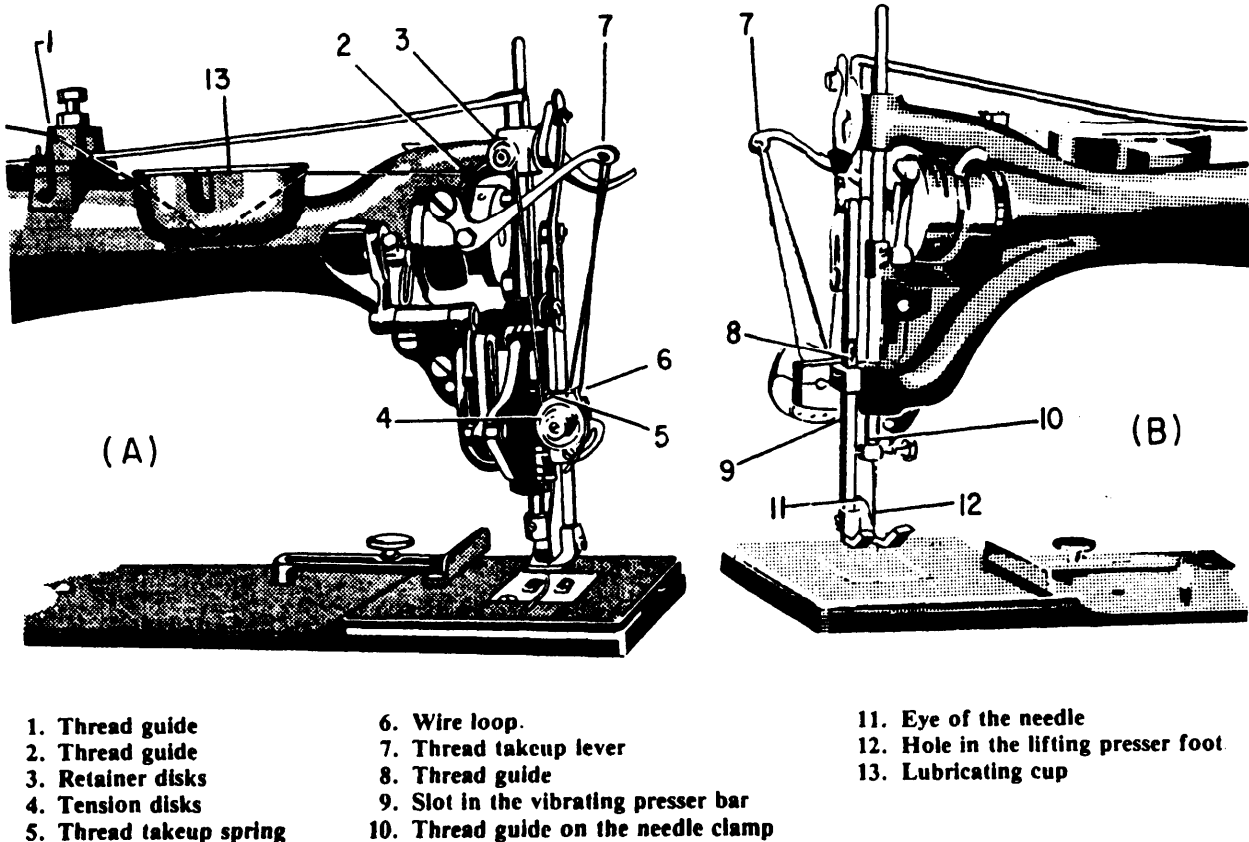

Figure 9-19.—Threading the 7-33 sewing machine.
Turn the balance wheel toward you until the thread take-up lever (7) moves up to its highest position (fig. 9-19). Pass the thread from the thread stand to the thread post, right to left
guide (10), which is located on the needle clamp. The needle is now threaded from left to right through the eye of the needle (11). After the needle is threaded as shown in figure 9-19, pass the thread down through the hole in the lifting presser foot (12). Draw about 4 inches of thread through the hole in the lifting presser foot with which to begin sewing.